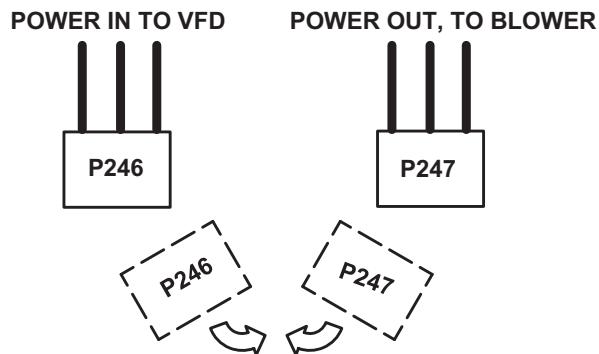

FIGURE 43
- 4 - Connect P246 to P247. See FIGURE 43.